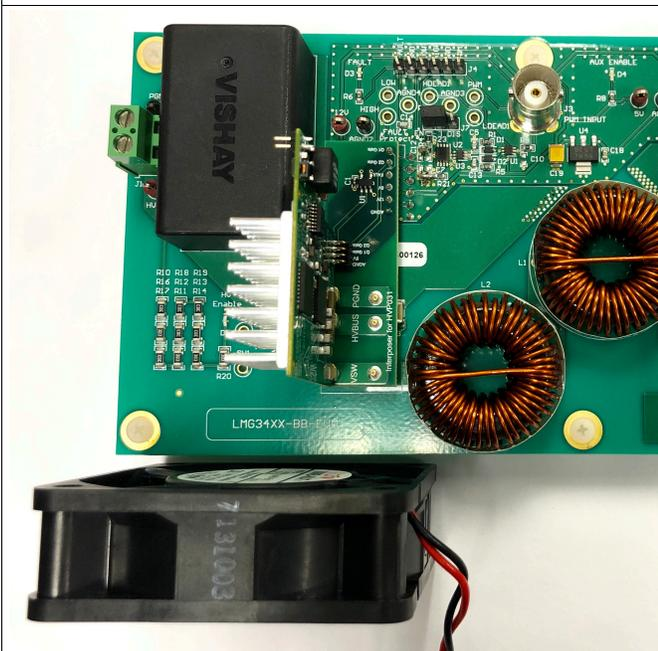

Figure 13. Recommended Configuration for Heatsink and Fan
- Cooling with an external fan is recommended to control the temperature of LMG3411R150 and the heatsink attached to it. Place the fan next to the EVM as shown in Figure 13.